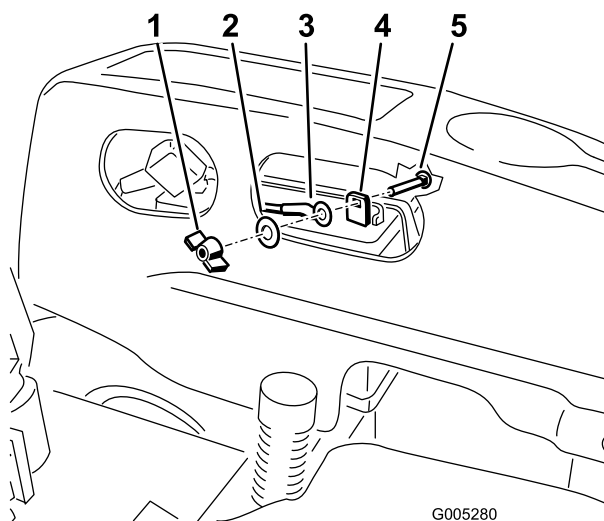

Figure 1
2. Remove the fasteners on the negative battery cable, and use them to secure the negative battery cable to the negative post (Figure 1).